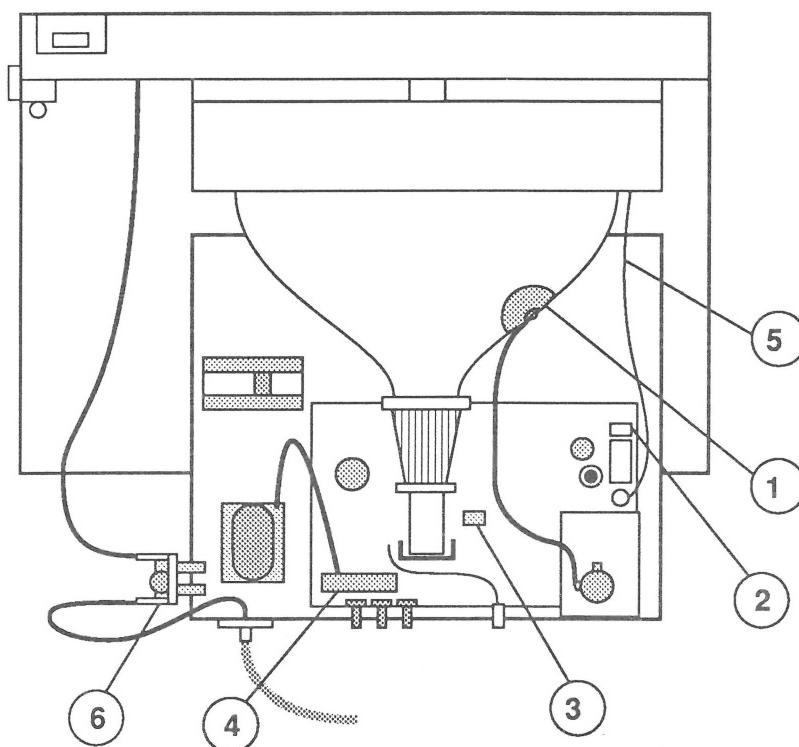
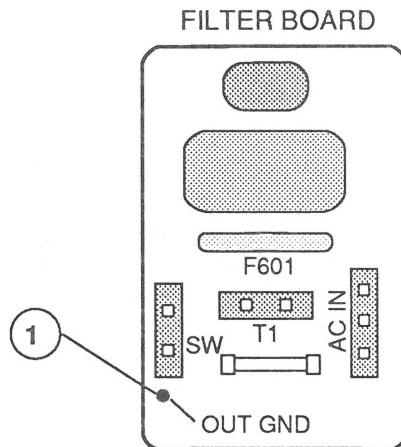

FIGURE 9
FIGURE 10
3. Remove the anode wire (Figure 9, #1) by peeling back the rubber cap, compressing the prongs of the anode connector clip (using long-nose pliers, if necessary), and pulling the connector out of the anode aperture.
6. Disconnect the brown/gray wire from position H-DY (Figure 9, #2) and the green/white wire from position V-DY (Figure 9, #3) on the main electronics assembly. Using diagonal cutters, carefully cut all the tie wraps along these wires.
7. Disconnect the two red leads at location T2 near the left-rear edge of the main electronics assembly (Figure 9, #4).
8. To free the main electronics assembly ground wire (Figure 9, #5), remove the screw from the mounting tab at the upper-right corner of the CRT. (The antistatic shield finger plate, which is also held in place by this screw, will come off.)
9. Locate the line filter board (Figure 9, #6). Unsolder the green ground wire from the line filter board at "OUT GND" (Figure 10, #1).